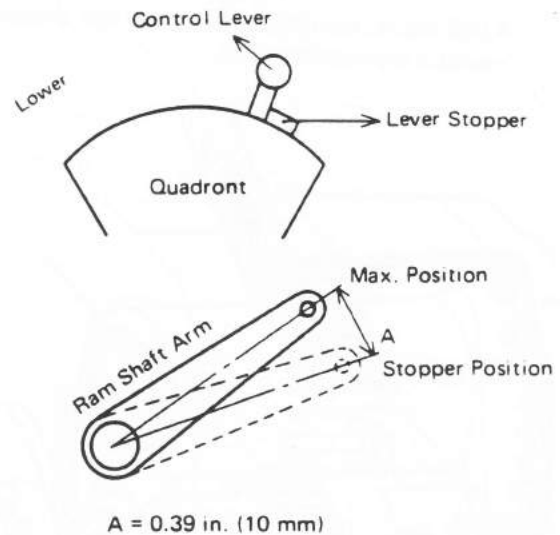

Fig. 21
- Raise the ram shaft arm to its highest position by hand, and as shown in Fig. 21, mark the position where the arm end lowers 0.39 in. (10 mm) from the highest position.